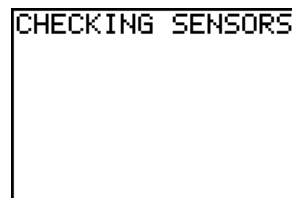

Figure 2
7. Press the 9 key, scroll to the *DataMate* application, and press β (Figure 2).